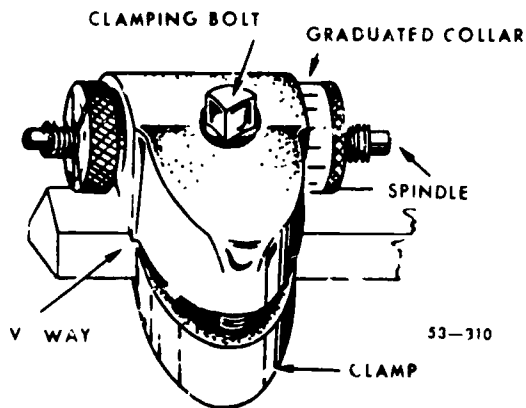

Figure 5-63 Micrometer carriage
**Micrometer Carriage Stop.** The micrometer carriage stop, shown in figure 5-63, is used to accurately position the lathe carriage. Move the carriage so that the cutting tool is approximately positioned, and clamp the micrometer carriage stop to the ways of the lathe, with the spindle in contact with the carriage. The spindle of the micrometer carriage stop can be extended or retracted by means of the knurled adjusting collar; the graduations on the collar (which indicate movement in thousandths of an inch) make it possible for you to accurately set the spindle. Next bring the carriage into contact with the micrometer spindle again. The carriage can be accurately positioned within 0.001 of an inch, which is very useful when you are facing to length or machining shoulders to an exact length. After making a cut, bring the tool back to the start of the cut by means of the carriage stop. This feature is very useful when you must remove a tool, such as the internal recessing tool, from the hole to take measurements and then reposition it